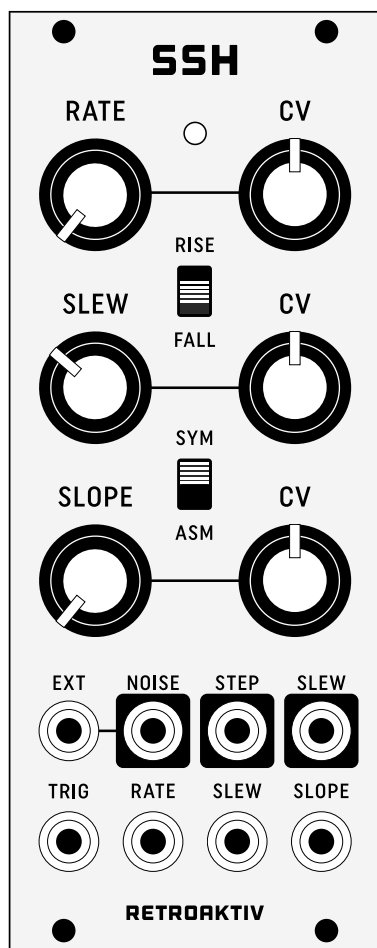

Figure 11 - Panel settings for trimming
- Set front panel knobs as shown in Fig 11. RATE should be set at minimum.
- Set the front panel knobs as shown in figure 11. Set RATE knob to center position. Monitor the SLEW output signal at the SLEW test point at the rear of the SLEW output jack.